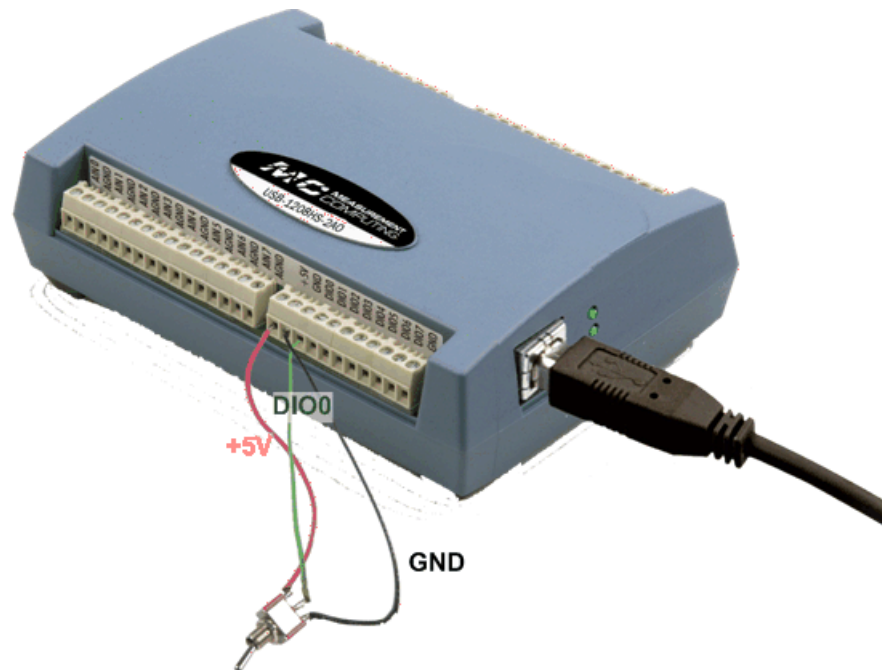
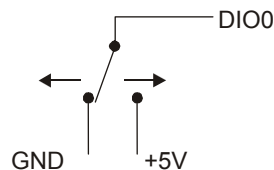

Figure 6. Digital connection DIO0 detecting the state of a switch
Figure 7. Schematic showing switch detection by digital channel DIO0
You can use the USB-1208HS digital I/O terminals to detect the state of any TTL-level input. Refer to the switch circuit shown in Figure 6 and the schematic shown in Figure 7. If you set the switch to the +5 V input, DIO0 reads *TRUE* (1). If you move the switch to GND, DIO0 reads *FALSE* (0).